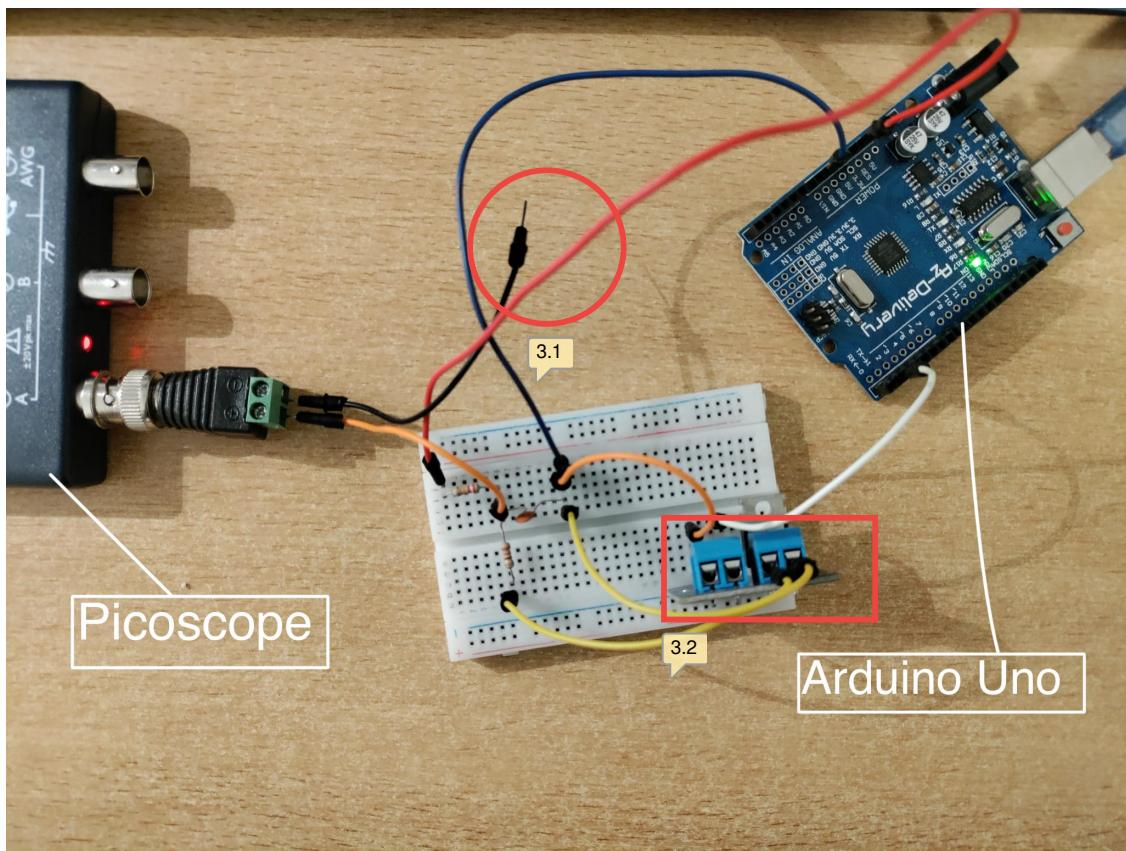

Figure 1.2: MOSFET Switch Circuit Set-Up
2. The Arduino Uno provided the 5V DC source used to charge the capacitor, and to operate the MOSFET switch, while the PicoScope functioned as the voltmeter. **Fig 1.2**